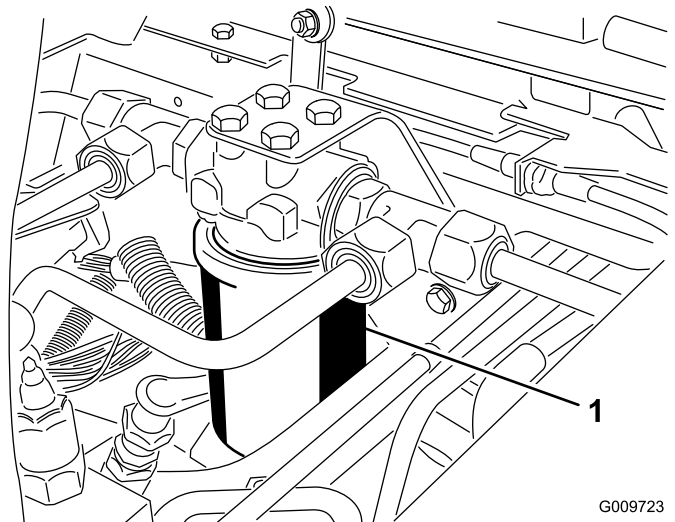
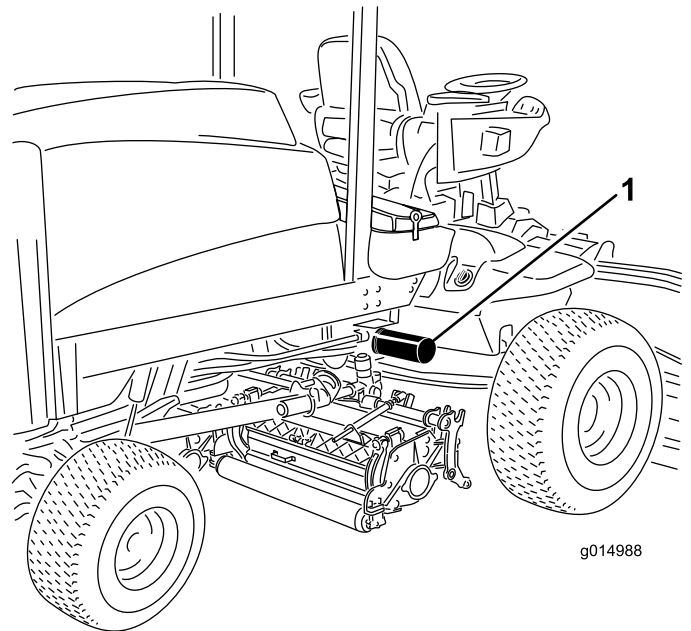

Figure 75
Figure 76
2. Clean the area around the filter mounting area. Place a drain pan under the filter and remove the filter (Figure 75 and Figure 76).